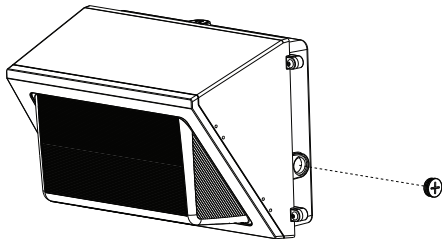

Fig. 25
1. Remove the 1/2 NPT KO plug from the side of the fixture. (See Fig. 25)